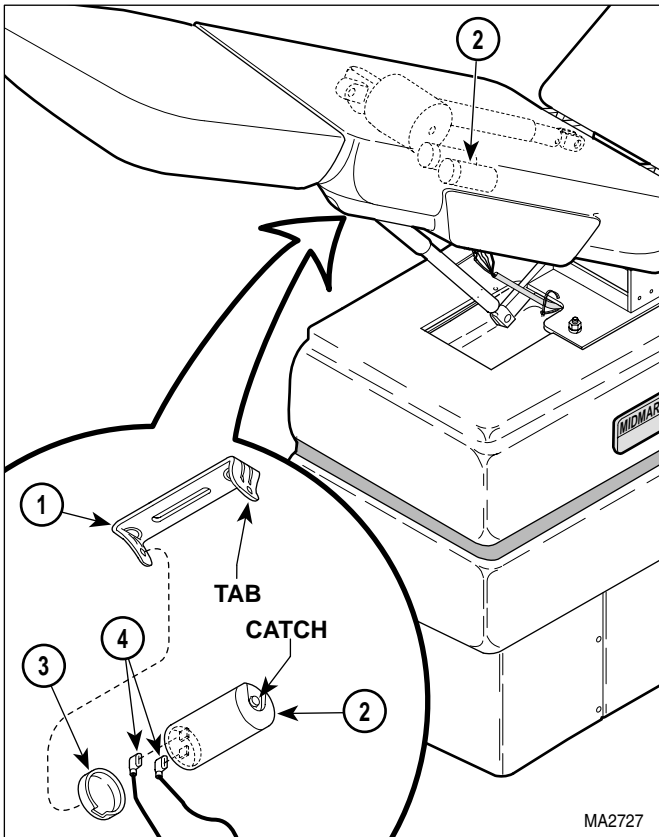

Figure 4-20. Back Capacitor Removal / Installation
- (2) Unplug power cord from wall outlet.
- (3) Using a screwdriver, pry tab of mounting bracket (1, Figure 4-20) outward and separate back capacitor (2) from mounting bracket.
- (4) Remove capacitor cap (3) from back capacitor (2).